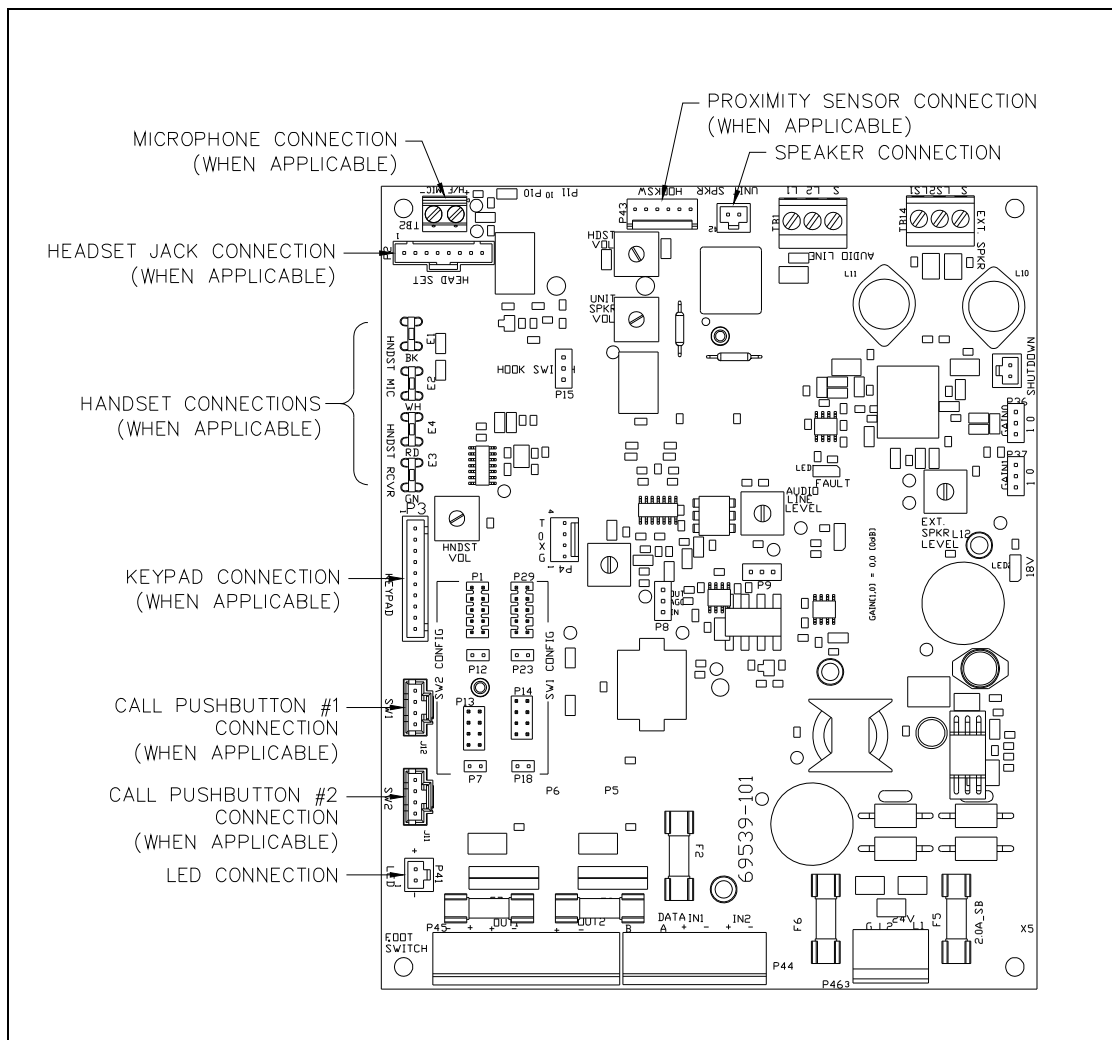
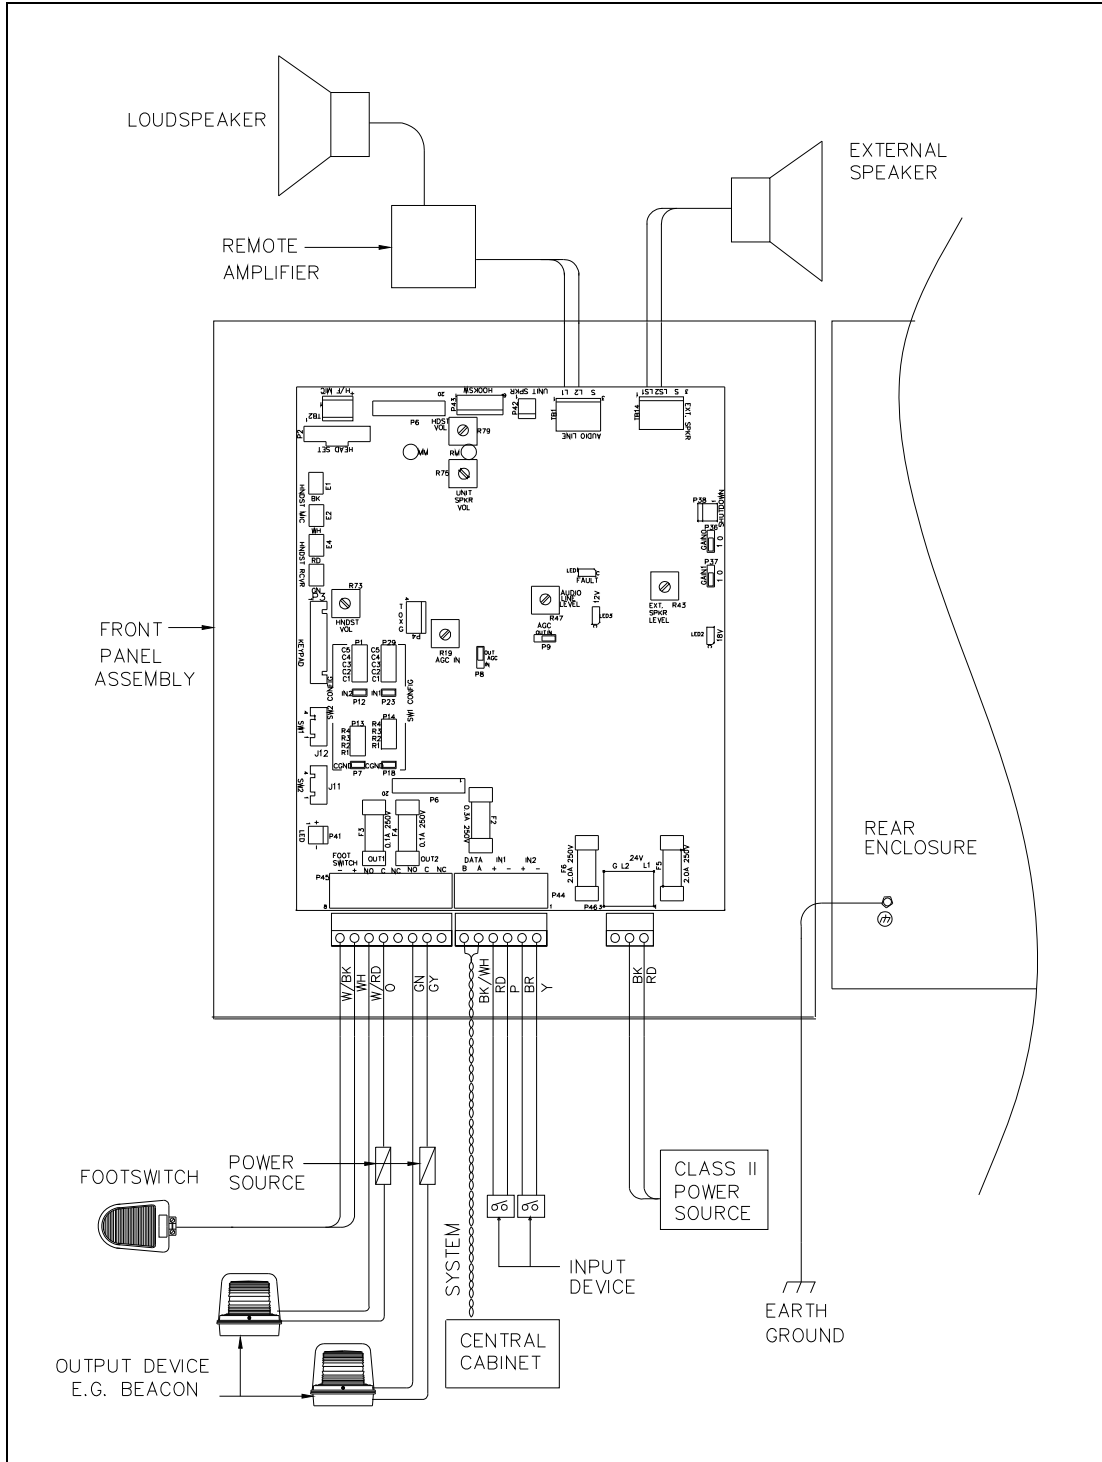

Figure 3. Audio Interface PCBA Connection Detail
Figure 4. Typical Station Installation
- Re-attach all of the connectors and field wiring into the Audio Interface PCBA. See Figure 3 and Figure 4.